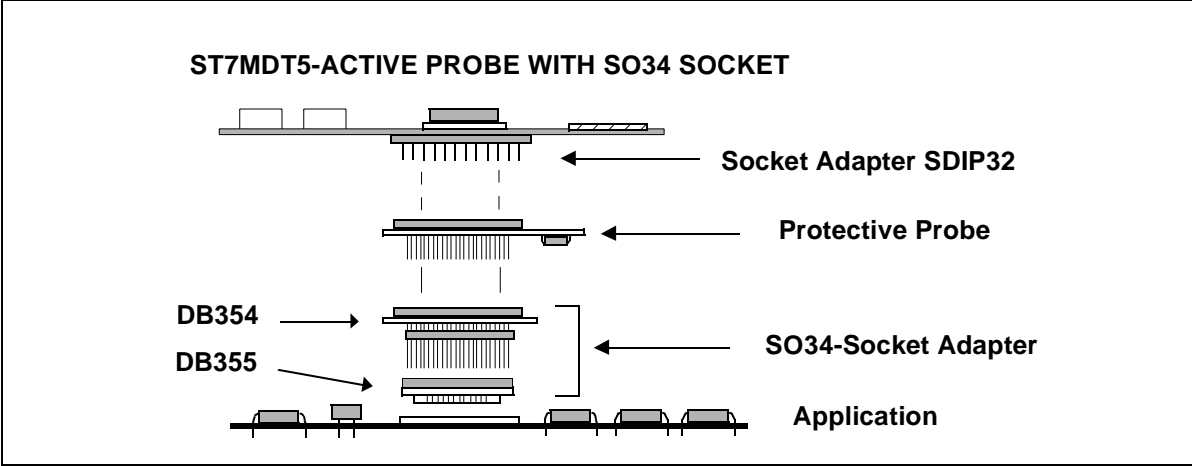

Figure 8: ST7MDT5-EMU2B with SO34 Socket Adapter
For the SO34 package, connect the emulation probe to your application board as follows (refer to *Figure 8*):
- 1 Connect the SO34 socket adapter (ref.: DB354 + DB355) to your application board. If the socket adapter is in two parts (as shown in *Figure 8*), connect DB355 to your application board, then carefully insert the male connector of the DB354 into the top of DB355.